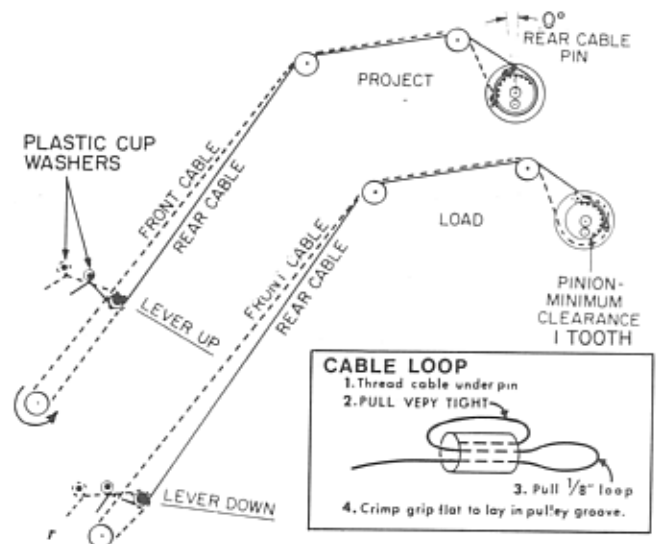

Figure 3-23. CONTROL CABLES
b. Apply Glyptal 7526 Blue to threads of screw (38).
d. End play of feed sprocket ( 14 ) to be .003 to .007. Use washer (17) to achieve this dimension.
e. Apply Glyptal 7526 to the threads of screw (6).
f. Lubricate working surface of roller arm guide (3) with Teresso N-75 oil.
g. Wrap and attach control cables as shown in Figure 3-23 and described below.
(1) Set control lever to "PROJECT". Thread rear cable first one wrap counterclockwise on drum. Pin approximately 0 left of verticle.
(2) Thread front cable. Cables must be snug but not "Music" tight.
(3) Secure cable ends under screw heads on threading control arm.